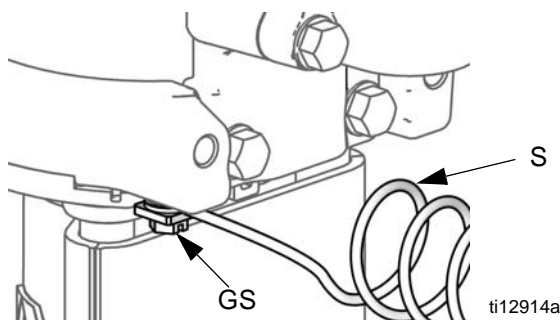

FIG. 3. Ground the Pump.
Pump: See FIG. 3. Verify that the ground screw (GS) is attached and tightened securely to the air motor. Connect the other end of the ground wire (S) to a true earth ground.